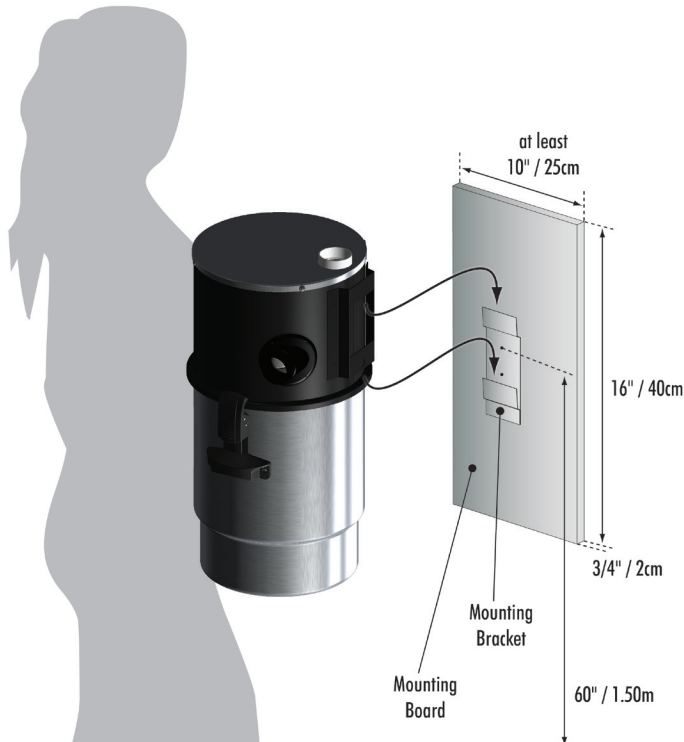

Fig. 2 Mounting the flair on the wall.
4. Insert the power unit bracket into the mounting bracket (Fig. 2).